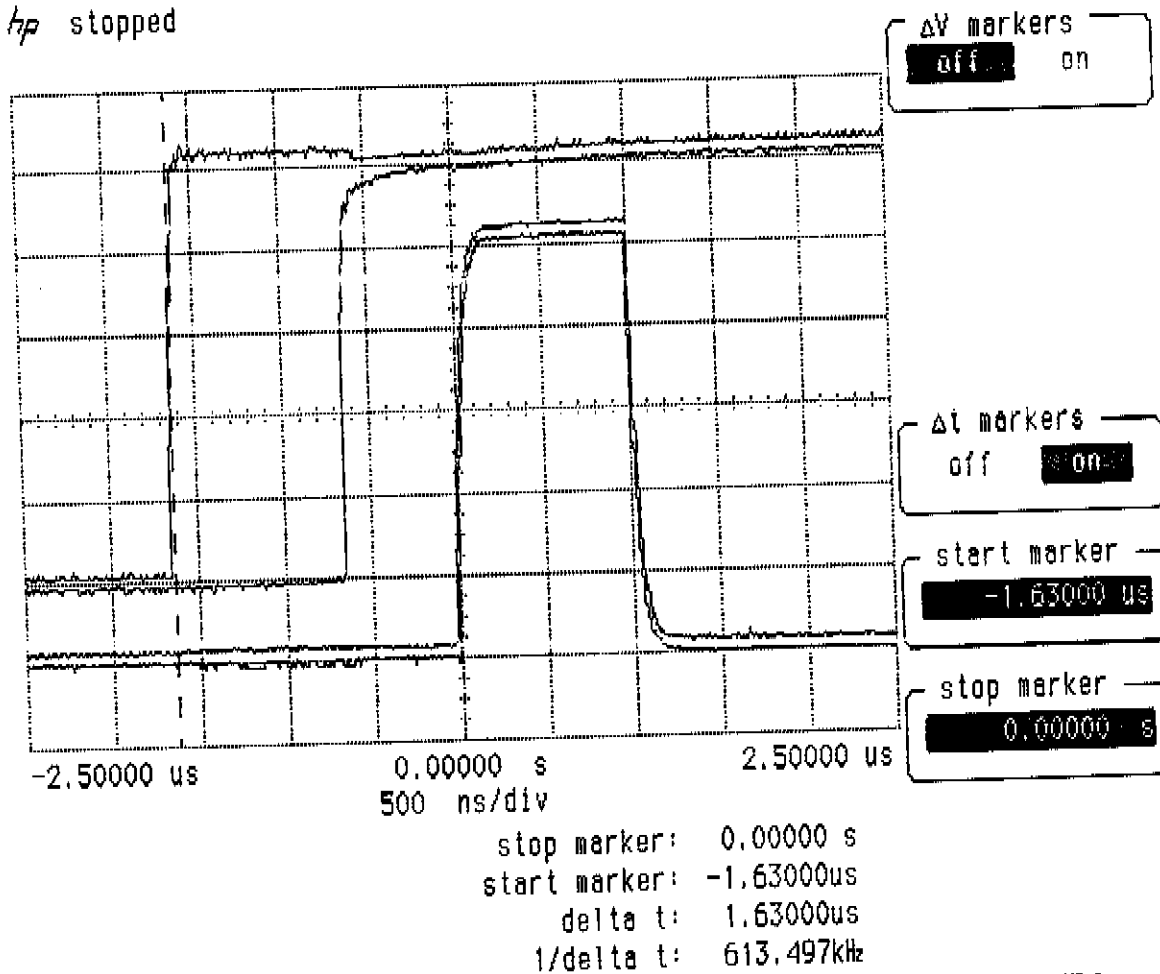

Figure 1-38. Oscilloscope Display of Minimum and Maximum Gate Delay Values
- On the oscilloscope, press **start marker**. Use the knob to position the start marker on the right edge of the upper trace on the oscilloscope display. Figure 1-38 shows position for maximum gate delay.